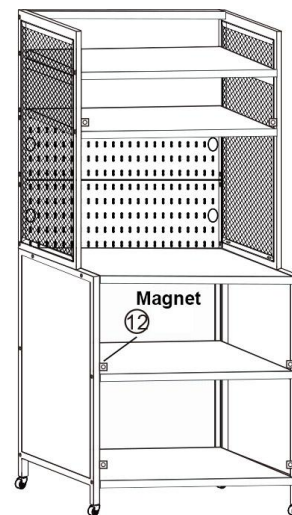

Figure 4
Step 4: Tear off the 3M adhesive tape on the back of the sticker, and then paste the adhesive side on the left and right sides, as shown in Figure 4;